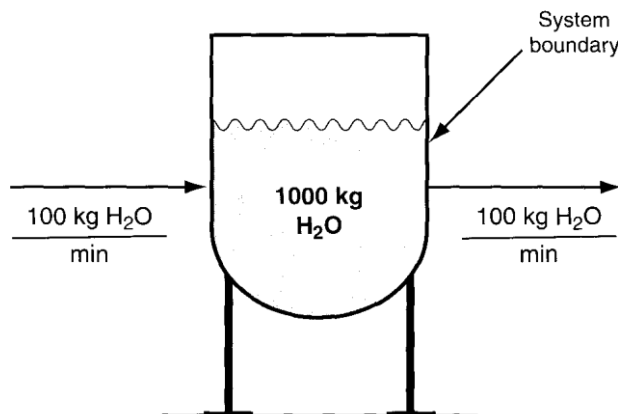

Figure 2 Open steady – state system.
Figure 2 is an example of an open system (also called a flow system) because material crosses the system boundary.
Because the rate of addition of water is equal to the rate of removal, the amount of water in the vessel shown in Figure 2 remains constant at its original value (1000 kg). We call such a process or system a steady – state process or a steady – state system because
1. The unchanged with time conditions inside the process (specifically the amount of water in the vessel in Figure 2) , and **تظل الظروف كما هي** remain **تظل الظروف كما هي** with time.
Equation 6.1 can apply to moles or any quantity that is conserved. As an example, look at Figure 6.7 in which we have converted all of the mass quantities in Figure 2 to their equivalent values in moles.